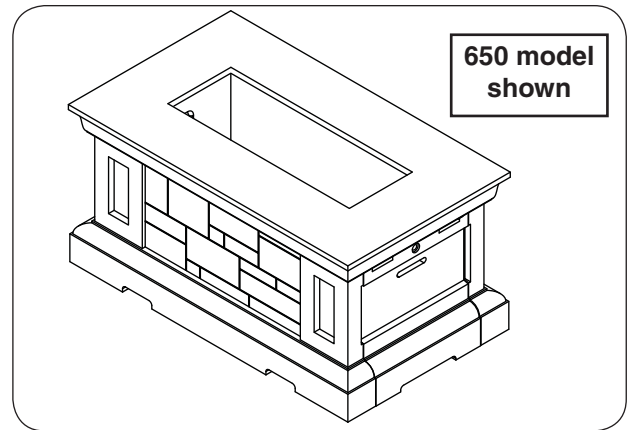

Fig. 21-1 Place unit
1. **CAREFULLY** place the unit in an appropriate location (see Fig. 21-1, and refer back to the LOCATION section if needed).